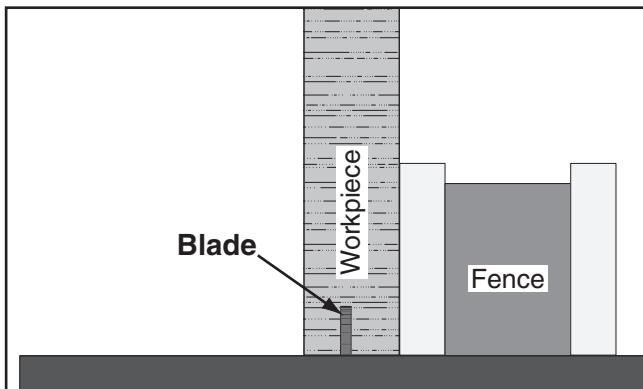

Figure 61. Rabbet cutting with a standard blade.
5. Stand the workpiece on edge, as shown in **Figure 61**, then adjust the fence so the blade is aligned with the inside of your rabbet channel.